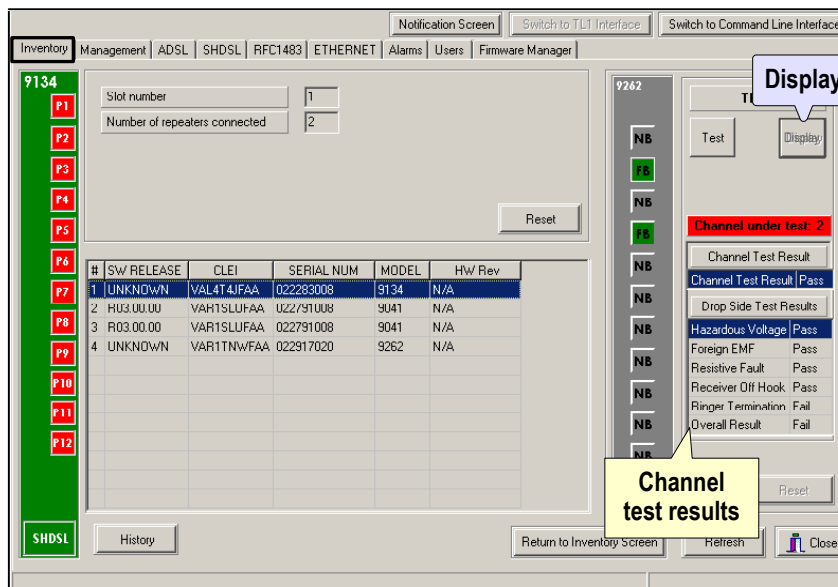
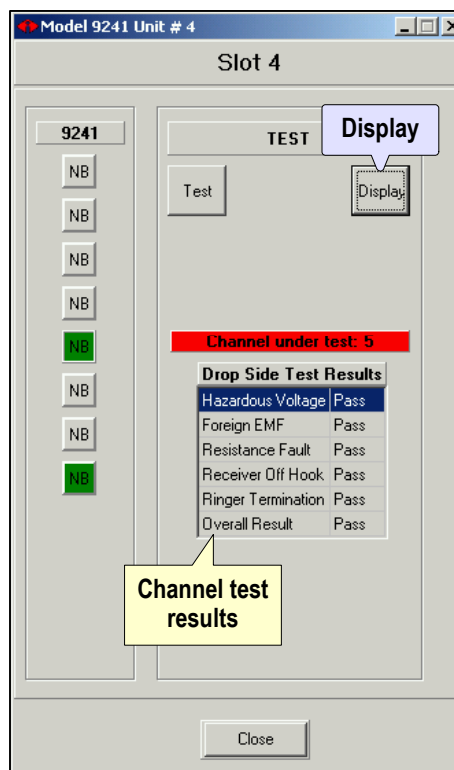

Figure 40 – Channel test results on the Inventory status screen
Figure 41 – Channel test results on the Model 9241 screen
*The test results appear on the **Inventory status** screen (Figure 40, Figure 41).*